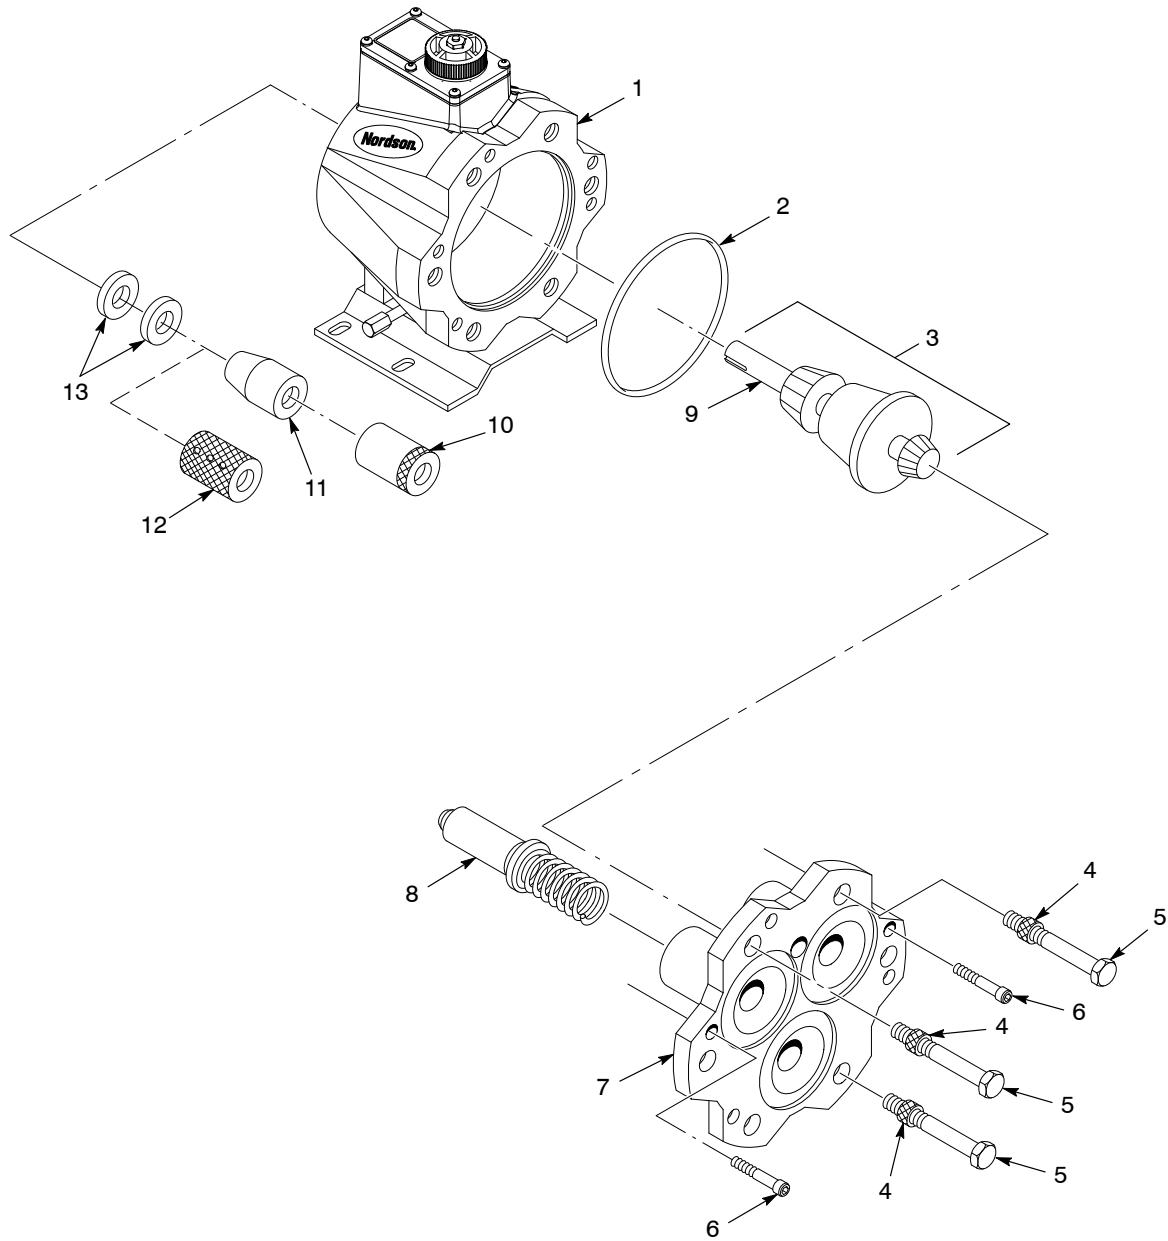

Figure 11 Pump Housing Assembly
1. See Figure 11. Insert the pistons (8) into the cylinder casting (7). Make sure the hole on the foot end of each piston is pointing toward the center of the cylinder casting.
3. Apply O-ring lubricant to the O-ring (2). Install the O-ring on the inside surface of pump housing (1).
5. Carefully place the cam shaft assembly (3) into the pump housing. Nest the bearing into the bearing race.
6. Place the cylinder casting (7) on the pump housing. Make sure the cylinder casting and the pump housing bolt holes are aligned.
7. Install the draw bolts (5) and nuts (4) as illustrated. Tighten the draw bolt nuts evenly.
8. Use the shaft rotator tool (12) to rotate the shaft (9). If the shaft begins to bind, loosen the nuts and realign the shaft.
9. Install the cylinder casting retainer bolts (6).
10. Loosen the nuts (4) and remove the draw bolts (5).
11. Rotate the shaft (9) to check for proper alignment. Remove the shaft rotator tool.